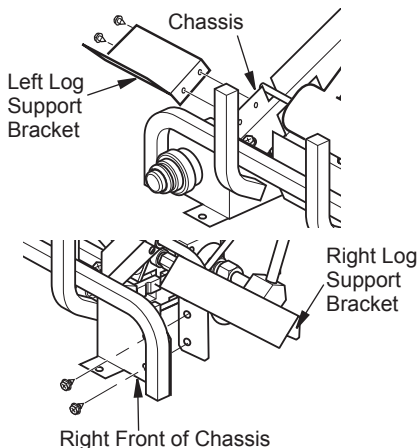

Figure 17 - Installing Log Support Brackets
1. Install left bracket to left side of chassis using 2 screws provided (see Figure 17).
2. Install right bracket to right front of chassis using 2 screws provided (see Figure 17).